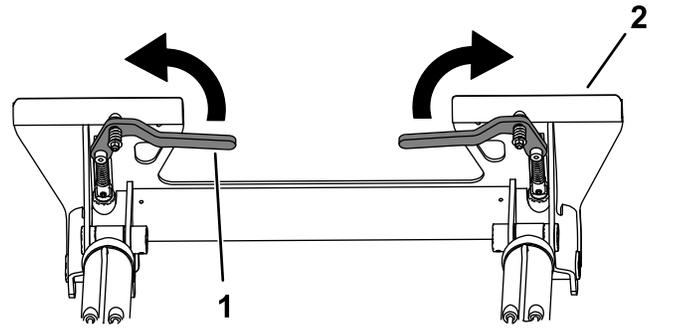

Figure 28
2. Rotate the quick-attach levers outward to raise the quick-attach pins (Figure 28).